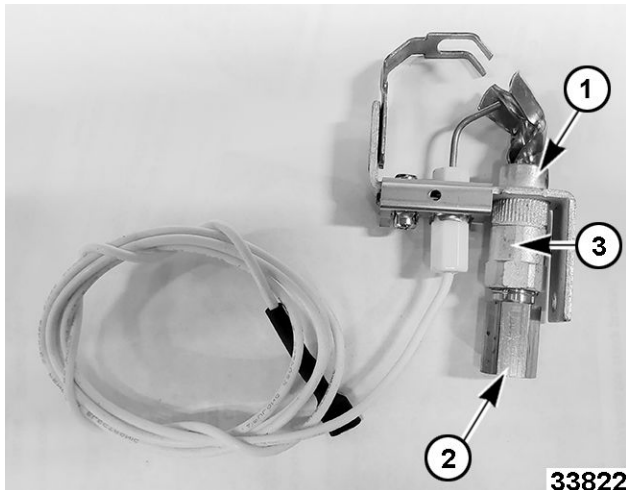

Fig. 58
2ND GENERATION SHOWN IN Fig. 58
- Item 1 in Fig. 58, pilot burner.
- Item 2 in Fig. 58, pilot orifice.
- Item 3 in Fig. 58, pilot tube compression fitting.
9. Disconnect main valve (MV) lead wire from terminal 1 on ignition control module.